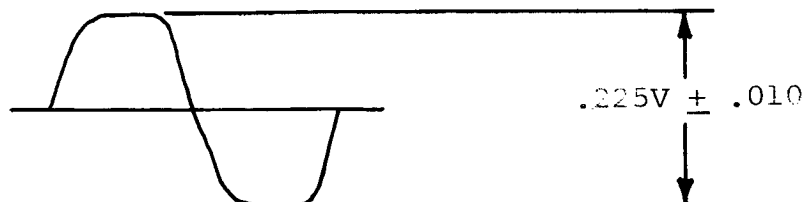

Figure 3
- *2. Observe the scope pattern, as shown in Figure 3, at the junction of C20 and R43. Make particular note of equal clipping on positive and negative half cycles. Peak-to-peak voltage shall be between .215 and .235V.